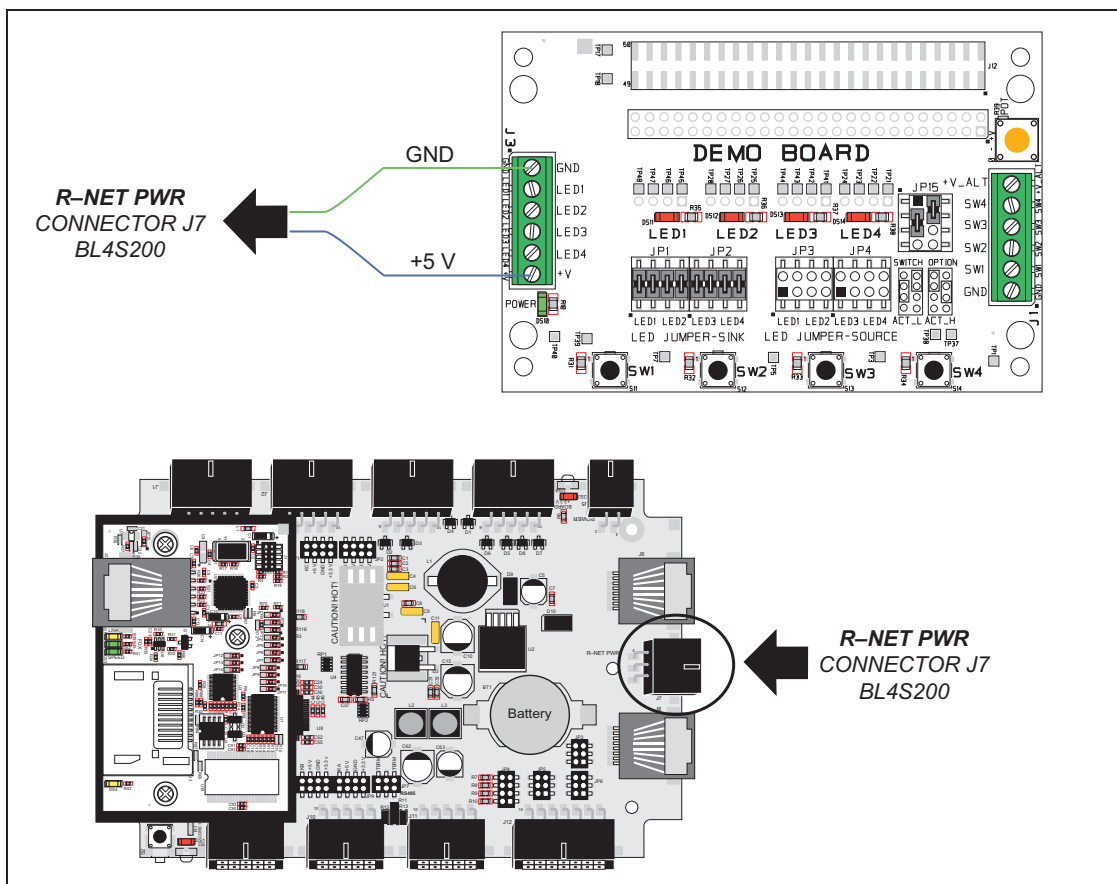

Figure C-1. Power Supply Connections Between BL24S60 and Demonstration Board
1. Use the 6-position connector to bare leads wiring harness included in the BL4S200 Tool Kit to connect screw-terminal header J3 on the Demonstration Board to connector J7 on the BL4S200. The connections are shown in Figure C-1, with the green wire to GND and the blue wire to +V.